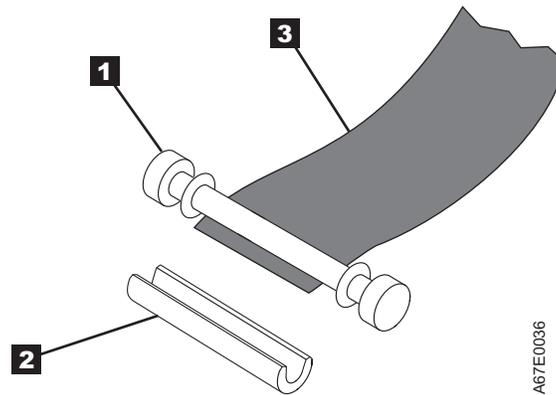

Figure 56. Removing the C-clip from the leader pin. Use your fingers to push the C-clip from the leader pin.
5. On the leader pin (**1** in Figure 56), locate the open side of the C-clip (**2**). The C-clip is a small black part that secures the tape (**3**) to the pin.